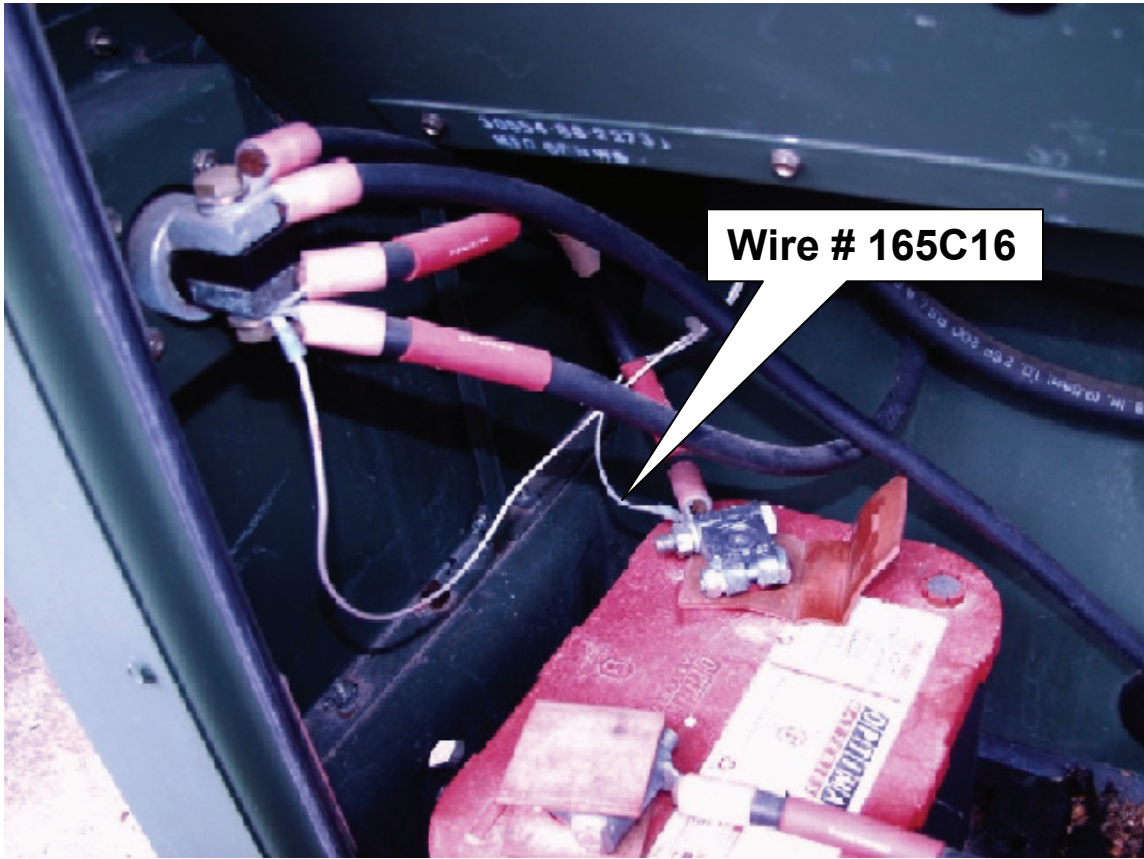

Figure 2 Battery Compartment
- 2 Remove wire # 165C16 from the positive terminal of batteries as shown in figure 2.